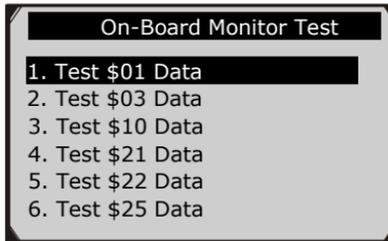

Figure 6.27
- 5) From **On-Board Monitor Test** menu, use the **UP/DOWN** scroll button to select a test to view and press the **OK** button. (Figure 6.27)